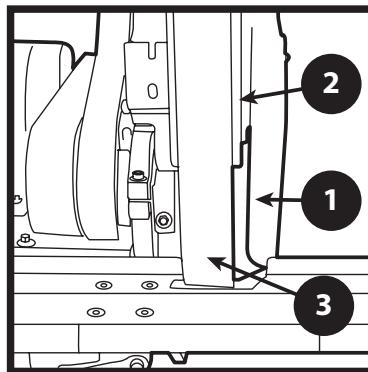

FIGURE 1
- ❶ CONTACT WHEEL GUARD
- ❷ VERTICAL PLATEN
- ❸ ABRASIVE BELT
- ❹ SAFETY GUARD DOOR
- ❺ DOOR LATCH
- a. The contact wheel guard and vertical platen are mounted and adjusted such that the platen lightly touches the back of the abrasive belt (Figure 1). *See page 7 for complete instructions on installation.*